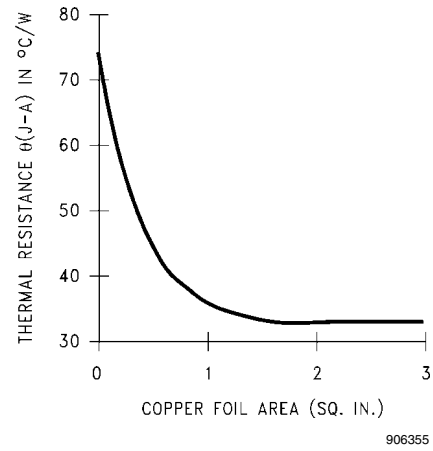

FIGURE 7.  $\theta_{(J-A)}$  vs Copper (1 ounce) Area for the TO-263 Package
*Figure 7* shows for the TO-263 the measured values of  $\theta_{(J-A)}$  for different copper area sizes using a typical PCB with 1 ounce copper and no solder mask over the copper area used for heatsinking.
As shown in *Figure 7*, increasing the copper area beyond 1 square inch produces very little improvement. It should also be observed that the minimum value of  $\theta_{(J-A)}$  for the TO-263 package mounted to a PCB is 32°C/W.